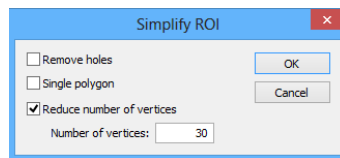

Figure 251 – Simplify ROI dialog
2. Click the **Simplify...** button. The **Simplify ROI** dialog is then displayed (see Figure 251).